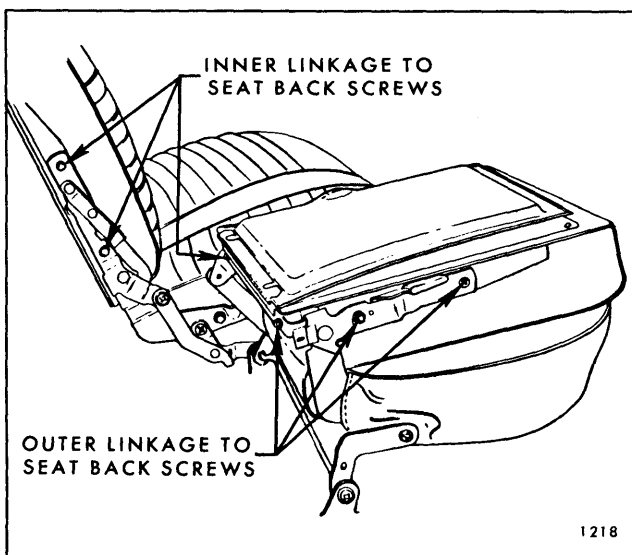

Fig. 15-80—Seat Inner and Outer Linkage
2. Remove outer and inner linkage to seat back attaching screws (Fig. 15-80). Remove seat back lock handle, spring and bushing from between outer linkage and seat back panel; then, remove seat back panel and rear floor filler panel from linkage.